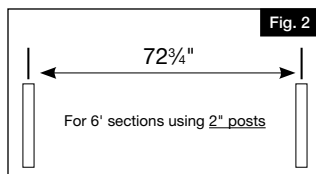

Fig. 2
- For 6' sections using 2" posts: measure $72\frac{3}{4}"$ from the center of an end point and mark with stake (Fig. 2).